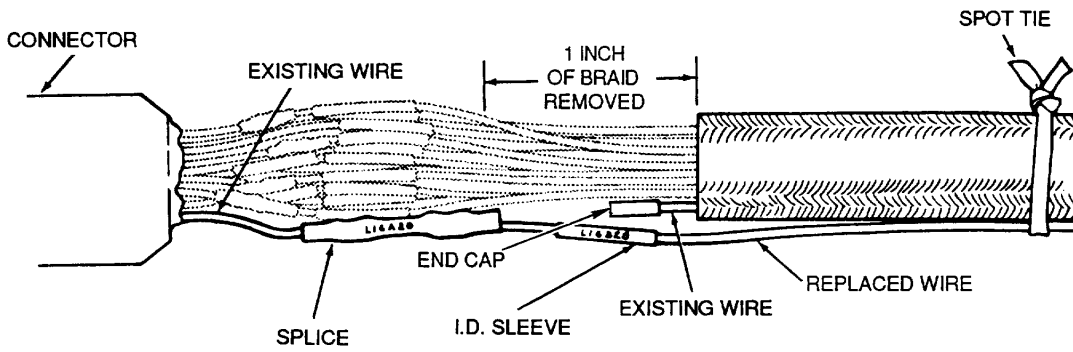

Figure 15. Replacing Unshielded Wire at Potted
22. **Replace Unshielded Wires.** The procedure to replace unshielded wires is as follows. The new wires shall be routed parallel and external to the harness and secured with lacing tape (Figures 15 and 16).